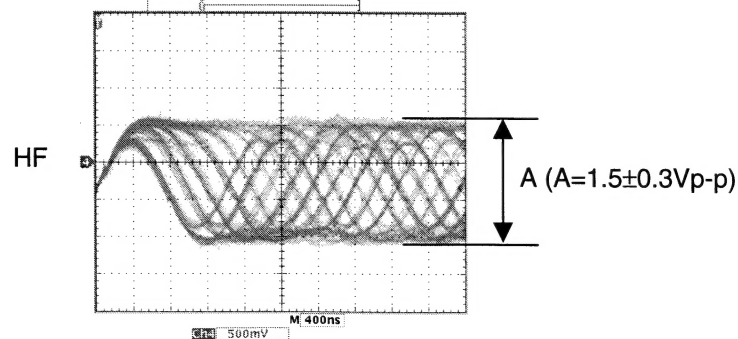

**Fig. 4 In "03 F on"**
- \* Press the PLAY button after performing above (1) "DISC discrimination, adjustment".
- \* "03 F on" is displayed. DISC starts turning, and focus servo will be actuated. (Refer to Fig. 4, 5)